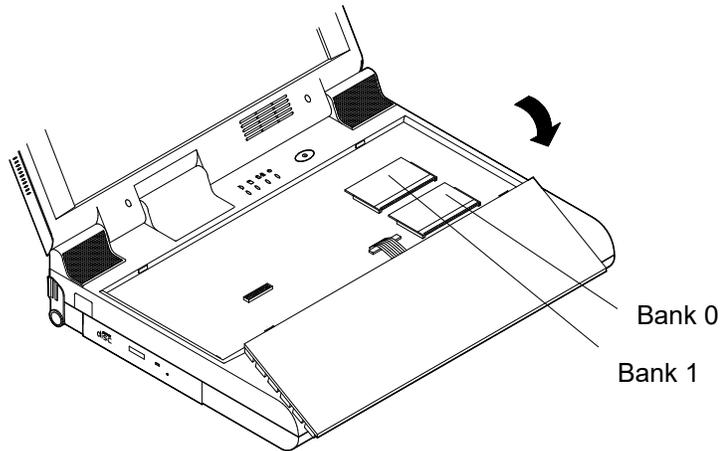

Figure 2-7
3. Carefully lift the keyboard assembly out so that the mainboard is exposed. Locate the memory sockets (Figure 2-7).
3. Carefully lift the keyboard assembly out to expose the mainboard. Locate the memory sockets (Figure 2-7).